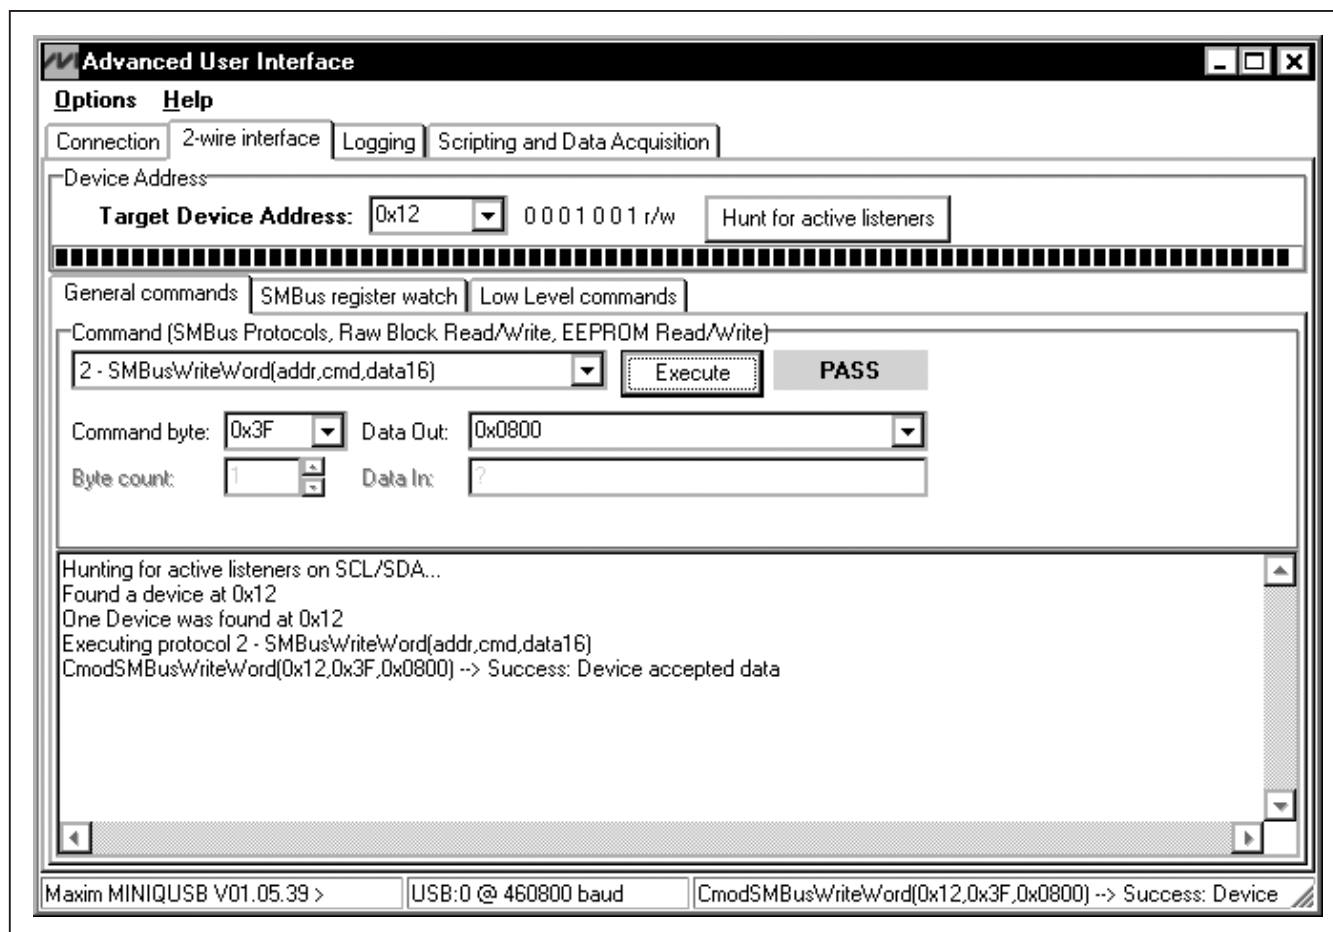

Figure 3. Simple Low-Level 2-Wire Interface
There are two methods for communicating with the EV kit, through the normal user-interface panel (Figure 1) or by using low-level SMBus commands available through the **Advanced User Interface 2-Wire Interface** tab (Figure 3) from the main program's **Options | Interface (Advance Users)** main menu. A window is displayed that allows SMBus operations, such as **SMBusReadWord** and **SMBusWriteWord**.
**Note:** The SMBus dialog boxes accept numeric data in binary, decimal, or hexadecimal. Hexadecimal numbers must be prefixed by \$ or 0x. Binary numbers must be exactly eight binary digits. See Figure 3 for an example of this tool. Figure 3 shows a simple SMBus write-word operation using the included 2-wire interface diagnostics tool. In this example, the software is writing data 0x0800 to the register address 0x3F (input current) to the device with the device address 0x12. The data sequence sets the MAX17435 input current to 4096mA.